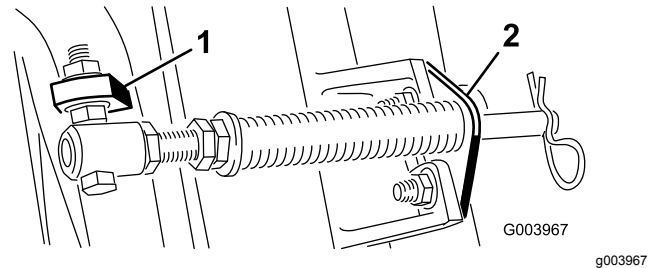

Figure 5
Note: Position the bolt head to the outer side of the tab as shown in Figure 5.
- D. Mount the rod bracket to the cutting-unit tabs with the carriage bolts and nuts (Figure 5).